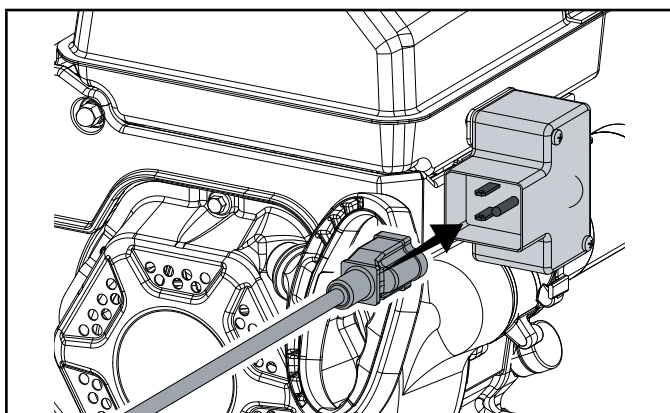

Figure 17
- Alternatively, for electric start, plug in the supplied electrical cord into the starter. Press the electric start button and make sure that the mains supply voltage is 120 V~ 60 Hz (Fig. 17).